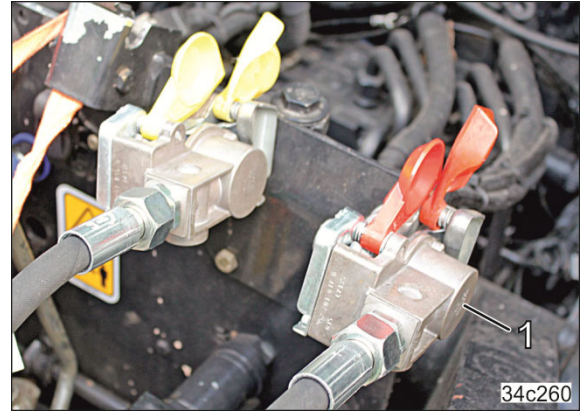

Fig. 119
2. Open the covers (Fig. 119/1) of the hose couplings on the tractor.
5. Fasten the hose coupling of the brake line (yellow) in compliance with regulations in the coupling marked yellow (Fig. 119/2) on the tractor.